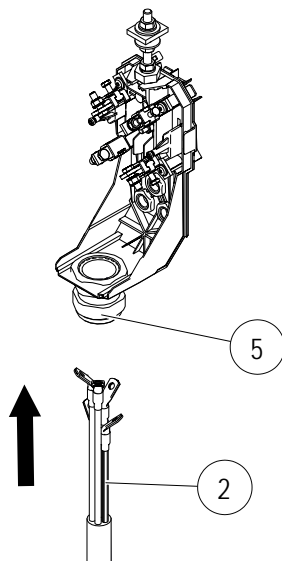
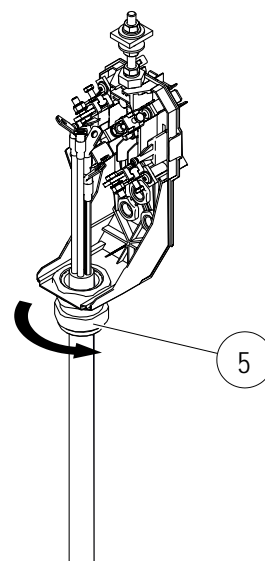

Fig. 42: Lead connection cable (Pos. 2) through cable screw connection (Pos. 5)
Fig. 43: Tighten cable screw connection (Pos. 5)
- Lead the connecting cables (Pos. 2) through the cable screw connection (Pos. 5) and tighten the cable screw connection (Pos. 5) (see Fig. 42 and Fig. 43).